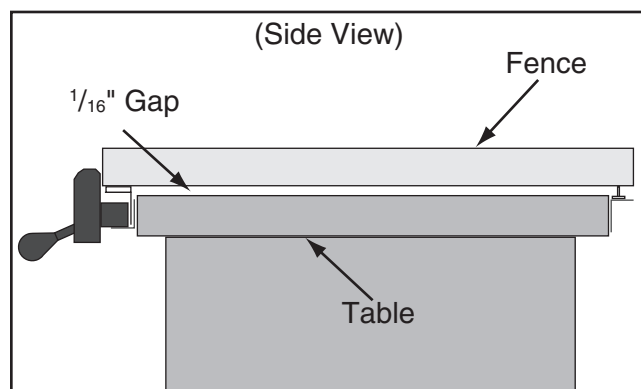

Figure 130. Gap between fence and table approximately 1/16" from front to back.
- If the gap is approximately 1/16" and even from the front of the table to the back (see **Figure 130**), then no additional adjustments are necessary. Proceed to **Clamping Pressure and Parallelism**.
- If the fence drags across the table, then loosen the hex nut on the foot at the rear of the fence and adjust the foot to raise the fence off of the table so the gap is approximately $\frac{1}{16}$ " and even from the front of the table to the back (see **Figure 130** on **Page 75**). Then, tighten the hex nut on the foot.